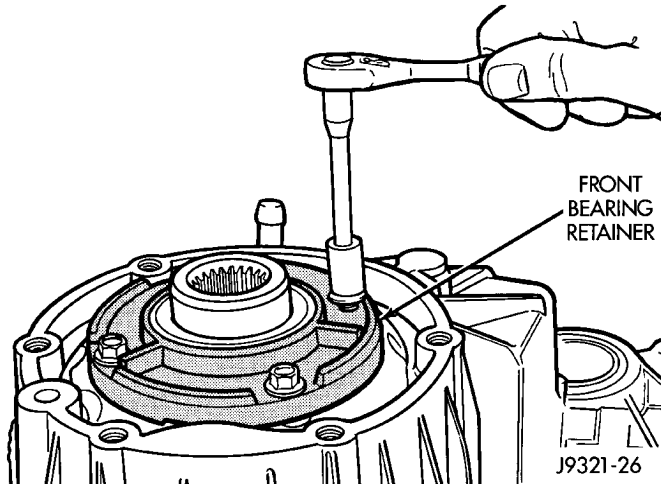

Fig. 34 Front Bearing Retainer Bolt Removal
- (1) Turn front case on side so front bearing retainer is accessible.
- (2) Remove front bearing retainer bolts (Fig. 34).
- (3) Remove front bearing retainer as follows: